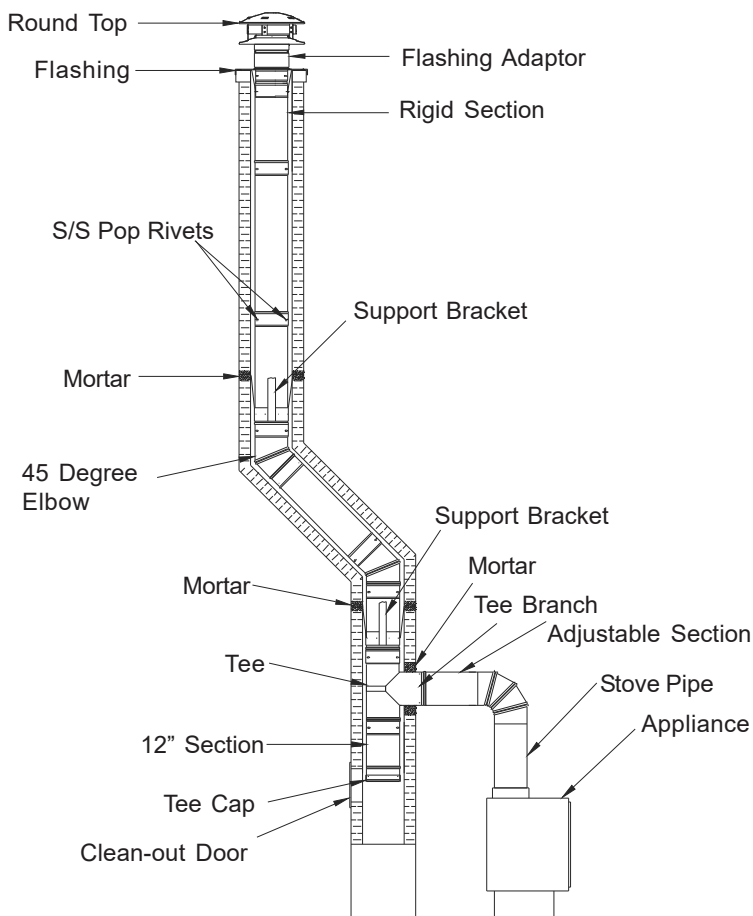
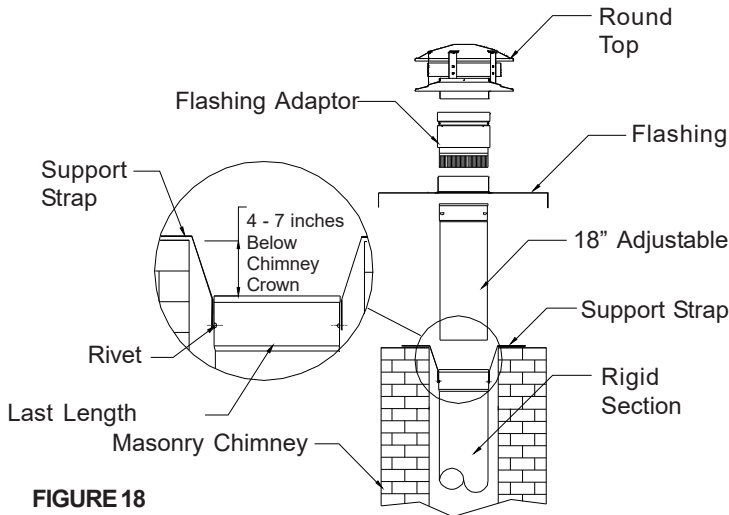
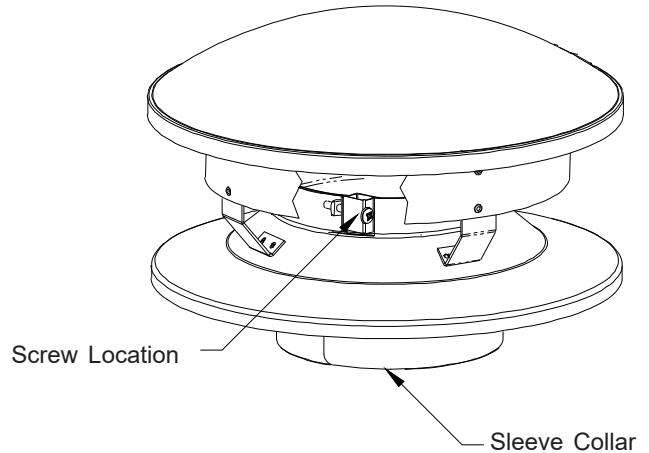

FIGURE 16
FIGURE 18
FIGURE 20 - ROUND TOP CUT-OUT SECURING SCREW
- Elbows can be used to accomplish offsets in a Stainless Steel Rigid Liner installation or in making connection to the appliance (Figure 16).
- If there is an offset in the chimney, use elbows as required and a liner Support Bracket as shown in Figure 16. Install the Support Straps at the top of the masonry chimney to hold the liner suspended while completing the base section.
- Slip the Support Bracket over the last Rigid Liner section on the expanded end of the length. Make sure the supporting straps are pointing upward. Tighten the band with the supplied nut and bolt. Drill eight (8) 1/8" dia. holes through the pilot holes in the band and secure with pop rivets (not supplied).
- Bend the support straps on top of the masonry chimney and secure in place with appropriate fasteners (see Figures 18 & 19).
- Insert the Flashing Adapter onto the Flashing making sure the sleeve collar of the Flashing goes all the way in between the Flashing Adapter outer and inner casing. Attach the 18" Adjustable Length to the crimped end of the Flashing Adapter. Attach the 18" Adjustable Length to the crimped end of the Flashing Adapter with 3 pop rivets. Use the pre-drilled holes as a template and drill 1/8" holes (see Figure 18).
- Secure the Supporting Straps to the last Rigid Length with two (2) pop rivets 1/8" in diameter.
- The top of the last Rigid section must be between 4" to 7" below the top of the masonry chimney. Bend the Support Straps on top of the masonry chimney and secure in place with appropriate fasteners such as tap-cons, shield and lag screws (see Figures 18 & 19).
- Apply a generous bead of high temperature silicone on top of the masonry chimney. Slide the Flashing assembly (Flashing, Flashing Adapter and the 18" Adjustable Length) into the chimney until the Flashing plate comes to rest on the clay tile or masonry chimney. **NOTE:** Make sure the 18" Adjustable Length enters into the top Rigid Length). Press the Flashing firmly into the silicone to create a good seal (see Figures 18 & 19). Install Round Top (see Figure 20).
- Once the liner is installed, attach the Round Top securely by loosening the screw on top of the sleeve collar (see Figures 18, 19 & 20) and by squeezing the bottom sleeve collar to allow it to enter into the Flashing Adapter. Press down evenly on the lower skirt until it contacts the upper end of the Flashing Adapter. Tighten the screw on the collar to expand the lower end of the sleeve collar until expanded and fully tight to the inside of the Flashing Adapter.